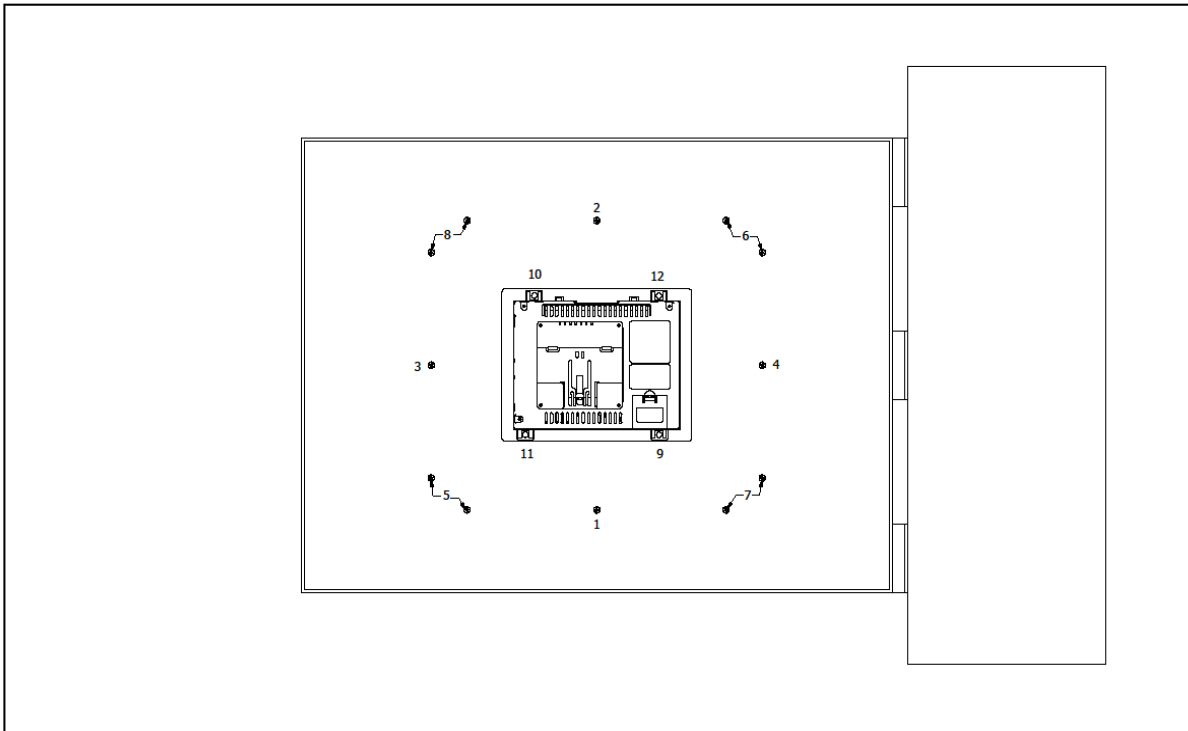

Figure 3.2—Perimeter Set Studs
2. If the system does not experience shock or vibration and will not be exposed to weather or wash down conditions, the unit can be installed by cutting the rectangular opening and installing the four (4) supplied clips.
8. The two (2) spring clips will latch the unit in the panel.
9. Insert each of the four (4) mounting clips into the slots in the XL15+ OCS case. One clip should be installed on each corner. Lightly tighten each screw so the clip is held in place.
11. If the perimeter studs are needed, it is recommended to use a thread locker (similar to 242 Blue Loctite). Use supplied lock washers and nut. Recommended torque is 3-4 in-lbs (0.34-0.45 Nm). Refer to Figure 3.2 (below) for the proper torque sequence.